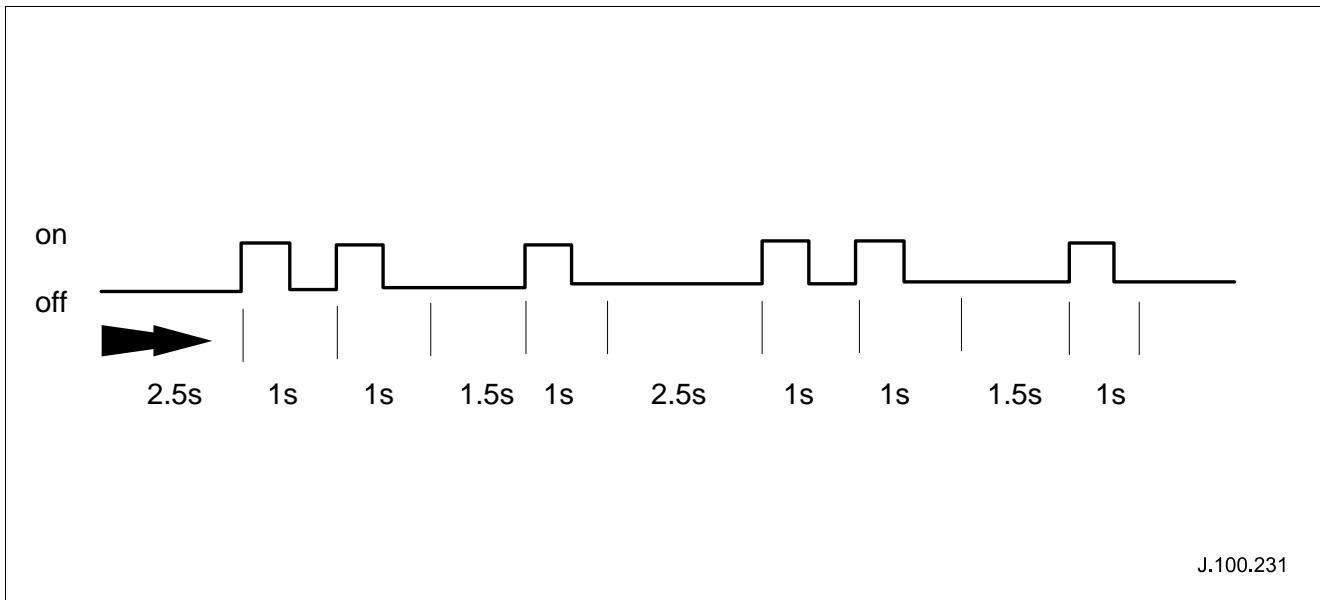

Fig. 2
When a PATS fault is apparent, the instrument cluster will store a DTC and indicate this to the customer by illuminating the LED in the following manner. The LED will be illuminated for 60 seconds (flashing for customer fault codes, continuous for non-customer fault codes); the LED will then be extinguished for 2.5 seconds. The first digit of the fault code will then be flashed. The total LED 'on/off' time per single flash will be one second, this being repeated for the relevant number of times to count the first digit. The LED is then off for a further 1.5 seconds before the second digit of the fault code is flashed, again the total 'on/off' time per single flash will be one second with the number of repeats being the second digit (see Fig. 2 below). The fault code flash routine will be repeated up to 10 times. The indication will stop immediately if the ignition is turned to 'OFF' at any time during the fault indication sequence.
- Example (see Fig. 2); fault code 21 (all times in seconds, from left hand side 2.5s, 1s, 1s, 1.5s, 1s, 2.5s, 1s, 1s, 1.5s and 1s)